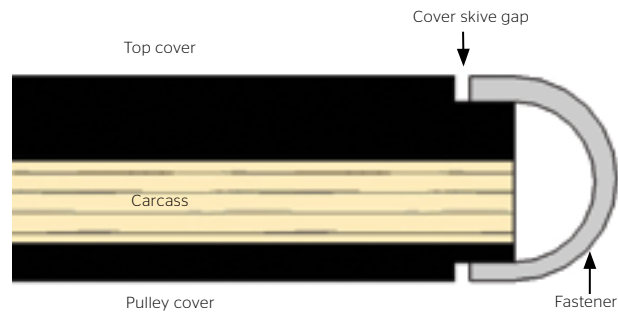

Fig. 9-12
- › The gap between the end of the fastener and start of the cover skive must be less than 1/16 in. (1.6mm). (Fig. 9-12)